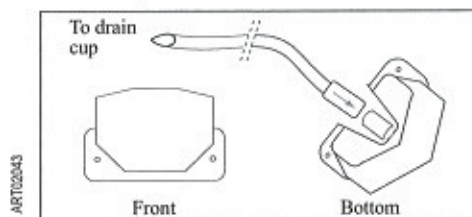

Figure 6. Replacing the Drain Cup
4. Insert the nipple of the drain cup back into the enlarged end of the tube. Refer to Figure 6.